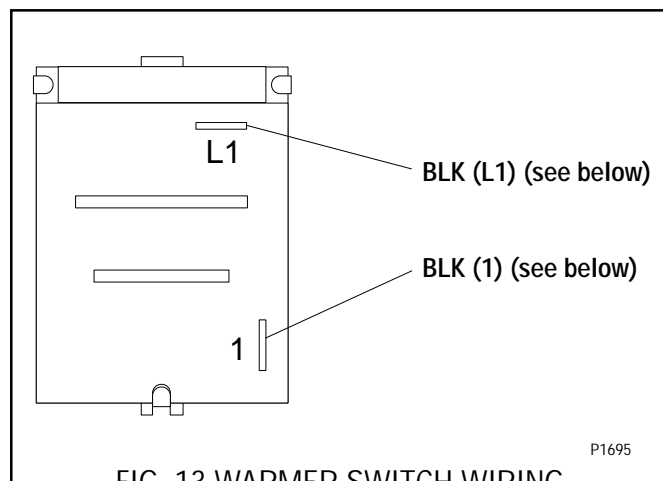

FIG. 13 WARMER SWITCH WIRING
- Refer to FIG. 13 when reconnecting the wires.